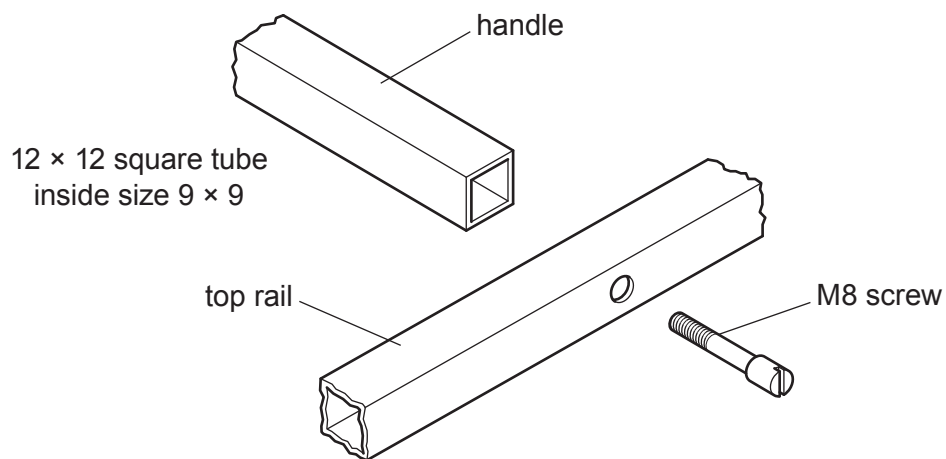

Fig. 12.3
- (c) Fig. 12.3 shows part of the handle that will be joined to the top rail by means of an M8 screw.